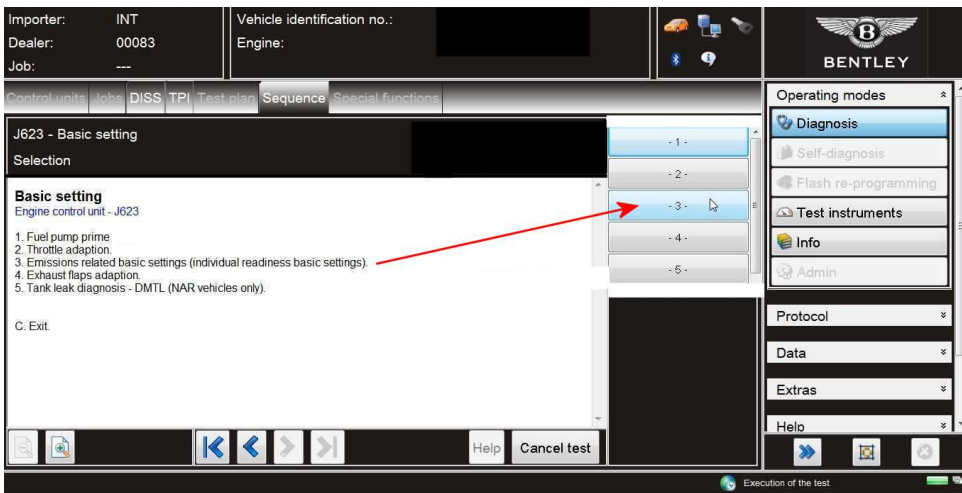

Figure 10
13. Referring to Figure 10 - Select -3- Emissions related basic settings (individual readiness basic settings)